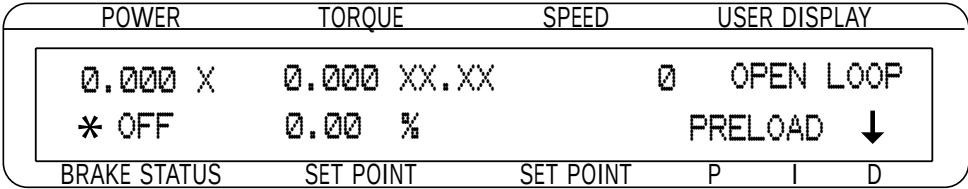

Figure 6–5 Preload Function enabled
4. If the preload function is enabled, “*” indicator will be displayed as shown in *Figure 6–5 Preload function enabled*.